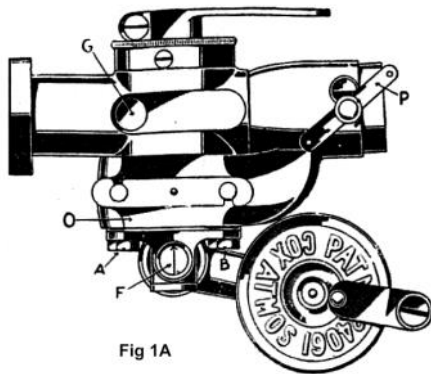
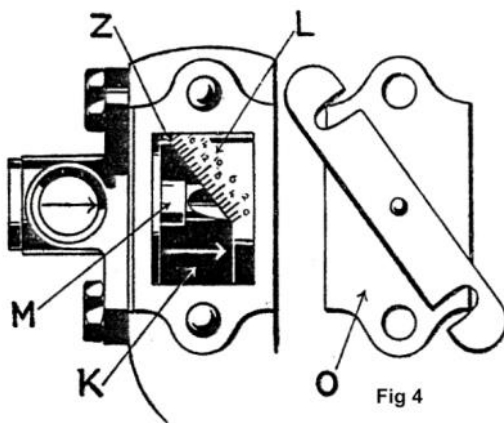

Fig 1A
Fig 4
Determine correct position of rotating band **L** to eliminate any trace of flat spots and produce a clean, powerful and perfectly progressive pick-up over the complete range of throttle. See page **6** and **Fig. 4.**
After having set jet **F** for full throttle power and band **L** for best mixture for all intermediate throttle positions, set for slow running by means of slow running screw **G** and sleeve **M**. **G** controls quantity and **M** quality. See page **7** and **Fig. 4.**
When the jet is closed, the arrow should point towards the body of the carburetter, as seen in **Fig. 1a**, also **Fig. 4.**
Having become conversant with the jet needle, note how the rotary band **L.** can be moved to allow more or less air to enter the jet control port **K.**; access to control port **K.** is obtained by removing the cover plate **O.**, see **Fig. 4.**
Become conversant now with the slip sleeve **M.**, which is located inside the port chamber, see **Fig. 4.**, and note that it can slide upon a small tube; can be adjusted by means of a pointed instrument inserted through air port **K.**, this sleeve will remain wherever placed.
**Set the rotary band L.** to an approximate position as shown in **Fig. 4**.
**Set the sleeve M.** right back in a reverse direction to which the arrow points - see **Fig. 4** -that is, so that the edge of the sleeve is clear of the edge of the slant, as shown.
The car should be on the level for this operation. Adjust screw **G.** to a position which gives a satisfactory slow engine speed. If the mixture appears to be a little too weak, enrich it by moving sleeve **M.** forward a little in the direction indicated by the arrow, **Fig. 4.** If, on the other hand, the slow running mixture is found to be too rich, although the sleeve **M.** is as far - back as it will go (this condition is seldom found), the mixture can be weakened by means of the throttle stop **H.**; screwing the stop in allows more air to enter the barrel at the closed position, and so weakens the slow running mixture. Screw in the stop a very little at a time, and as stop **H.** is screwed in, so it will be found necessary to screw inwards the slow running screw **G.**